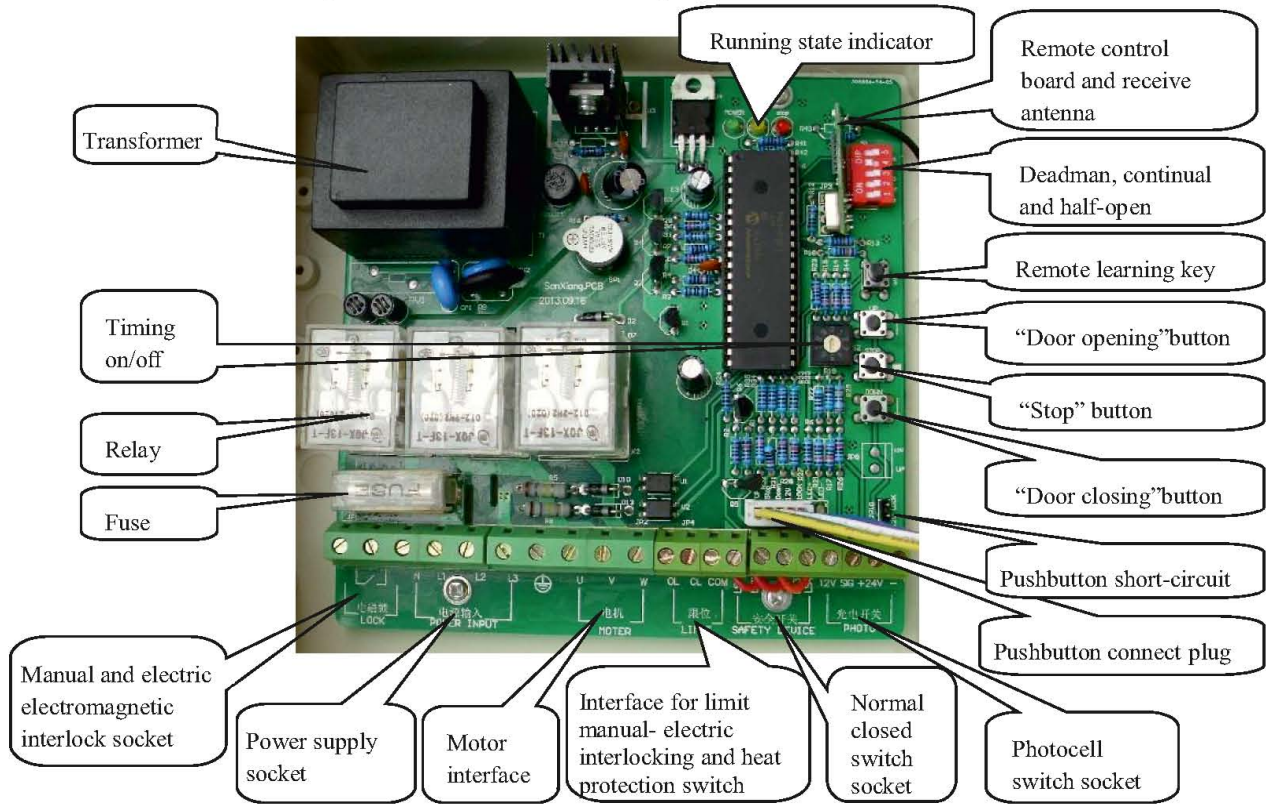
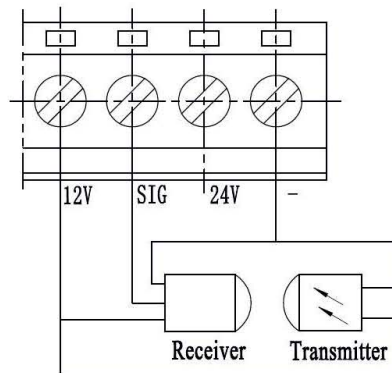
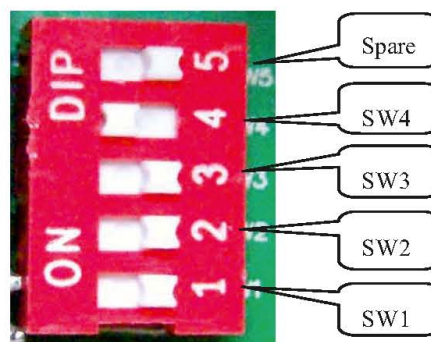
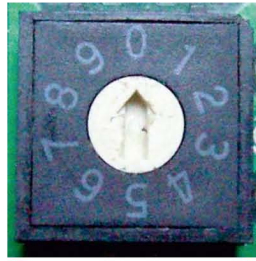

Fig. 7 Map of layout of main function components on DM 300 three-phase electrical controller's circuit board
Fig. 11 Diagram for wiring of photoelectric switch on DM 300 three-phase electrical controller's circuit board
Fig. 12 Diagram of switches for DM 300 three-phase electrical controller circuit board's Deadman, linkage and half-open functions
Fig. 13 Diagram of switch for timing closing function on DM 300 three-phase electrical controller circuit board
3.2.2.2 The "upward", "stop", "downward" and "emergency stop" buttons on control circuit board to control the drive's operation, the "button short-circuit jumper" and control panel's buttons can be switched, for installation and debugging (Fig. 7 and Fig. 9).
3.2.2.3 Control circuit board can define the drive's operation status of "Deadman", "linkage" "half-linkage (between upper and lower limit, the same below)", "full-linkage" at "upward" or "downward" mode (Fig. 7 and Fig. 12).
3.2.2.4 "Delayed automatic closing" function allows 9 grades, respectively 5, 10, 20, 25, 50, 100, 120, 180, 240 sec. Upon the termination of due delay time, the drive will automatically run to lower limit and stop, when "Delayed automatic closing" function is turned off, the "door closing" action will be manually implemented via "downstream" button (Fig. 7 and Fig. 13).
3.2.2.5 When receiving the drive's running limit on/off signals, control the drive and stop the running respectively, in the upper and lower limit switches' action (Fig. 7 and Fig. 8).
3.2.2.6 When receiving the drive's manual and electric interlocking protection on/off signals, manually operating the drive for "upward" and "downward" movement, manual and electric interlocking protection switch in the loop falls into short-circuit, and the drive can not be electrically operated, the circuit can be controlled in no manual operation state, and the drive can be electrically operated (Fig. 7 and Fig. 8).
3.2.2.7 When the drive is electrically controlled, direct-acting tubular electromagnet controlling manual and electric interlocking, shielding manual operation, when electrical operation stops, tubular electromagnet is power off, and the drive can be manually operated (Fig. 7 and Fig. 8).
3.2.2.8 When receiving the motor's thermal protection switch signals, and the thermal protection switch falls into short-circuit, electrical operation stops, when thermal protection is restored, electrical operation can recover by pressing switches (Fig. 7 and Fig. 8).
3.2.2.9 Can connect and respectively receive the external plug-in normally closed type switch(including anti crushing protection, door edge punching bottom protection, door-in-door protection, wire rope breaking protection, torsion spring break protection, etc.)signals, control drive switching circuit state to stop running(Fig.7, Fig.8 and Fig.10).
3.2.2.10 Can connect and respectively receive the external 12VDC or 24VDC normally open type photoelectric sensor (such as infrared) safety protection switch signals, the drive running should be stopped, then immediately ascend to “upper limit” or preset “half-linkage” position and then stop(Fig.7, Fig.18 and Fig.11).
3.2.2.11 Circuit board is provided with remote control function, to receive remote control transmitter signals and accordingly control the drive for "upward", "stop", "downward" status, with necessary principle of panel switch's priority in remote control (Fig. 7 and Fig. 14).
3.2.2.13 Running state indicator lamp is provided (Fig. 7 and 3.2.5).
②. in parallel The open limit switch (for door opening), and close limit switch (for door closing) was in parallel, they in series with the electric / manual interlock switch and over heat protection switch, which have been wired before the door opener is delivered from the factory, When connect the wire, please plug the 3 outgoing line's termina into the terminal shown in Fig. 7 and Fig. 8.
③. When the door opener delivered out from factory, the motor, ground connection and electric/ manual interlock total 3 group connecting line's main motor terminal has been connected, when the customer installation & wiring in the control box, should separately connecting the motor, ground connection and electric/ manual interlock connection's outgoing line's terminal into the terminal shown in Fig.7 and Fig.8.
⑤. Wiring of photoelectric safety protection switch: circuit board provides two power supply interfaces (DC12V and DC24V) which can be selected by users according to the working voltage of photoelectric switch (such as the wiring at DC12V shown in Fig. 11), the SIG terminal is photoelectric switch's signal entrance, when the door body is falling, if the interface receives DC voltage signal (12V or 24V), the door body immediately stops falling, then immediately lifts upward to the upper limit.
Function selection (Fig. 12):
selection (Fig. 13):
The indicator is installed on the control box's circuit board (as is shown in Fig. 7):